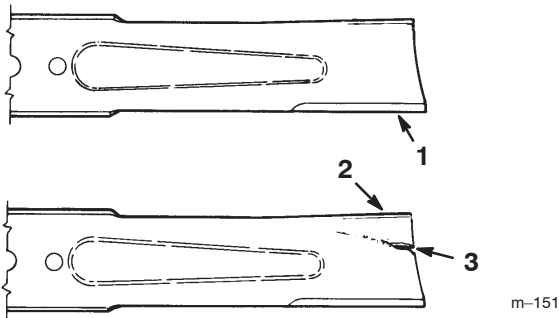

Figure 19
- Inspect the cutting edges (Fig 19).
- Inspect the blade, especially the curved area (Fig. 19).
If you notice any damage, wear, or a slot forming in this area (item 3 in Fig. 19), immediately install a new blade.